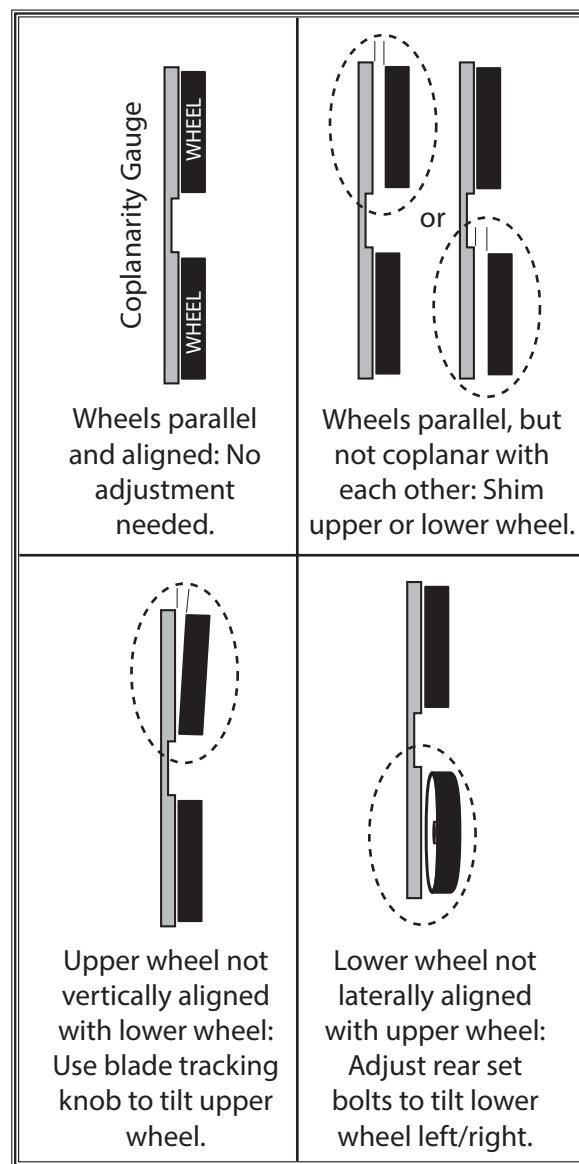

Figure 104. Wheel alignment illustration with solutions to misalignment problems.
5. Check wheel alignment and adjust tracking knob to bring both wheels into alignment as much as possible. If wheels cannot be adjusted coplanar, use **Figure 104** to determine how to proceed with alignment adjustments.